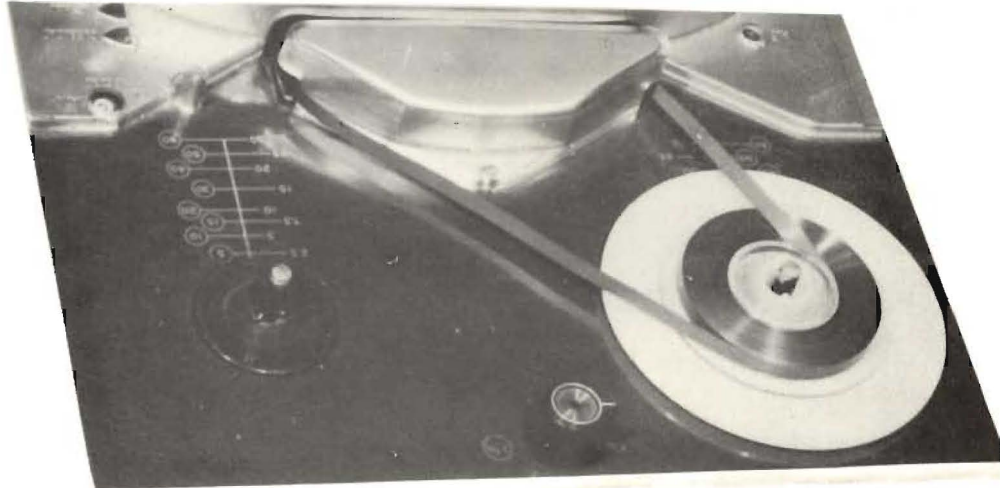

Figure 4
2. Carefully remove Loaded Disc from Magazine and place on Loading Plate, without removing Bearing from Disc. (See Figure 4.)